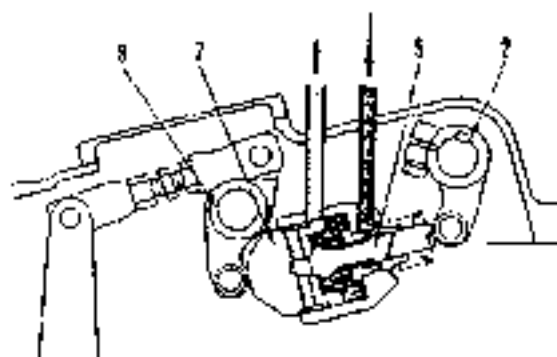

Fig. 2-31 Structure of Booster
The steering brake is equipped with a brake booster. It is used to reduce the driver's braking operating force significantly. The booster consists of rocker (2), valve body (6), spool (5), piston (7) and rocker (8) etc. (See Fig. 2-31).